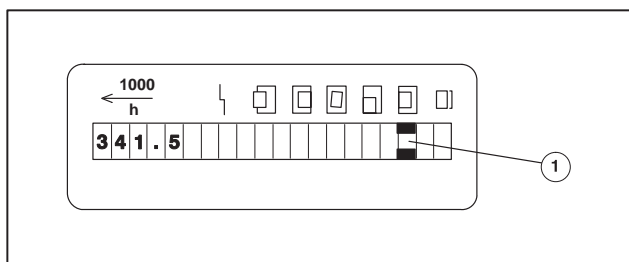

Fig. 65 MID, pull lay monitor
A light probe checks the function of the pulling device. A signal sounds (only during sheet travel) if a sheet has not correctly been pulled to the stop of the pulling device. A pull error is shown on the feeder display (Fig. 65/1) and on the control console.
until the display on the MID (Fig. 65/1) disappears.
6. Turn the knurled head screw in the opposite direction, until the display on the MID (Fig. 65/1) lights up.